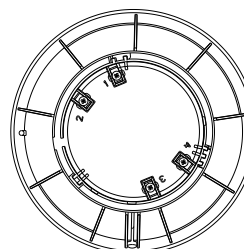
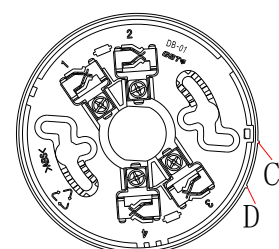

Fig. 3
Fig. 4
- Secure the detector base (Fig. 4) with 2 tapping screws, and wire them properly. Align the orientation mark B on the flashing beacon base to mark C of detector base, and rotate the flashing beacon base clockwise to D. Refer to Fig. 3 and 4.